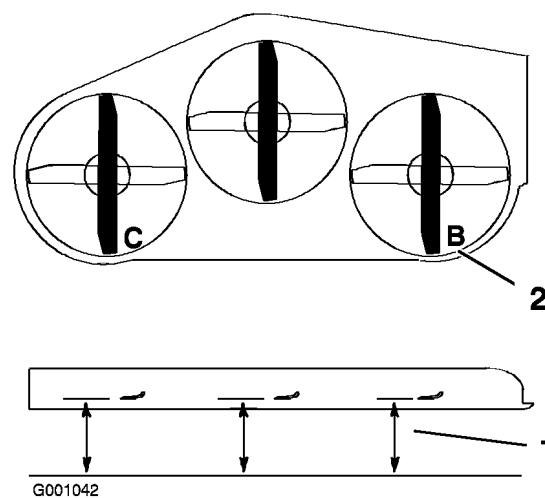

Figure 69
1. Position the right blade front-to-rear (Figure 69).
2. Measure the right blade at the **B** location, from a level surface to the cutting edge of the blade tip (Figure 69).
4. Position the left blade front-to-rear (Figure 69).
5. Measure the left blade at the **C** location (Figure 69), from a level surface to the cutting edge of the blade tip .